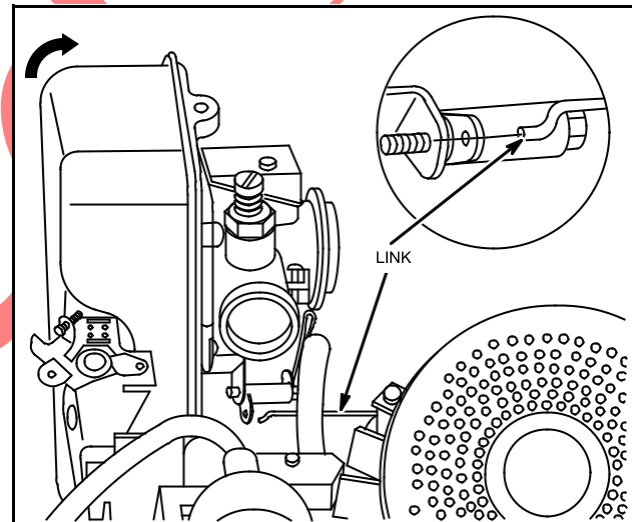

Fig. 222 - REMOVING FUEL TANK ASSEMBLY
3. This will leave governor spring and bell crank assembly on carburetor and fuel tank assembly, Fig. 222.